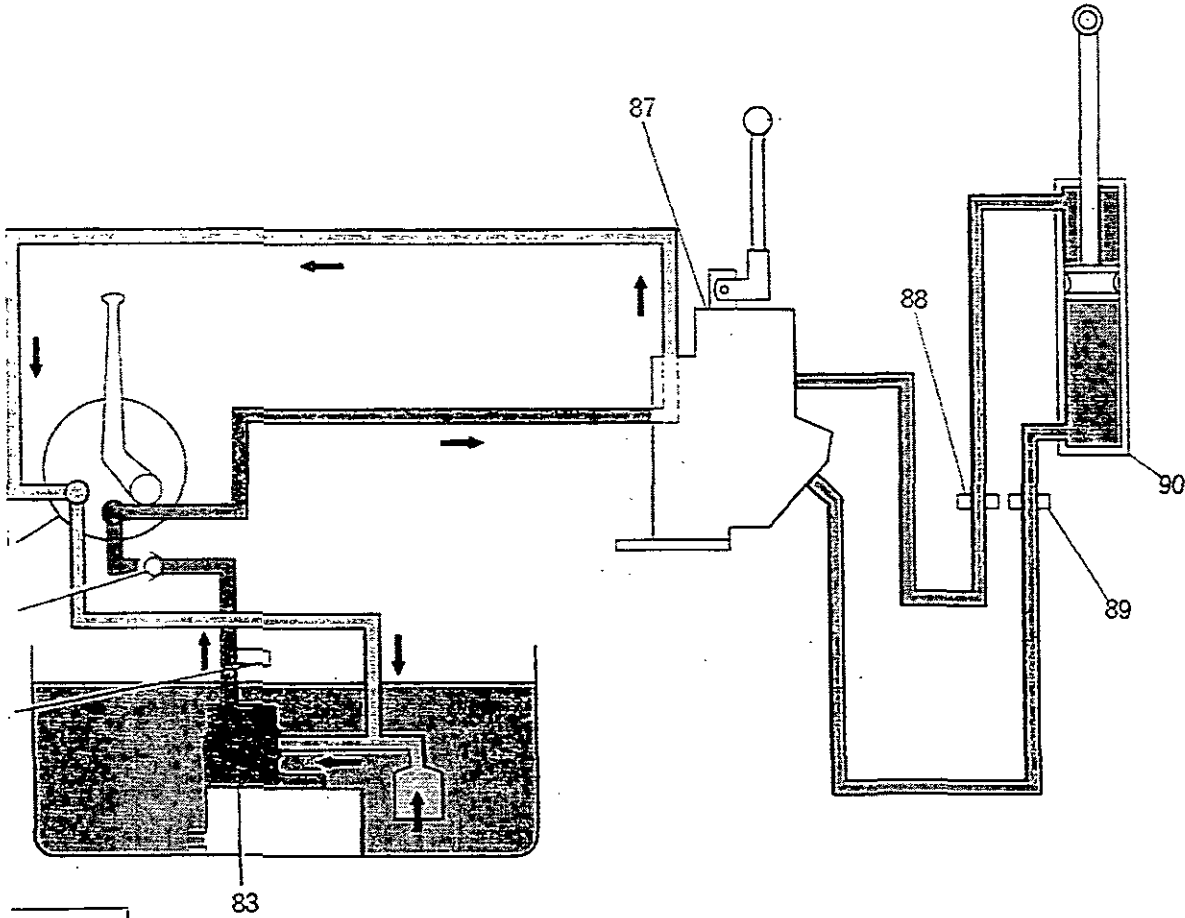

FIG. 15A
**Key to All Circuit Diagrams** Fig. 15A to 21B
**Double-Acting Ram-Wooster Spool Valve****Neutral (Lever Central)** Fig. 15A and 15B